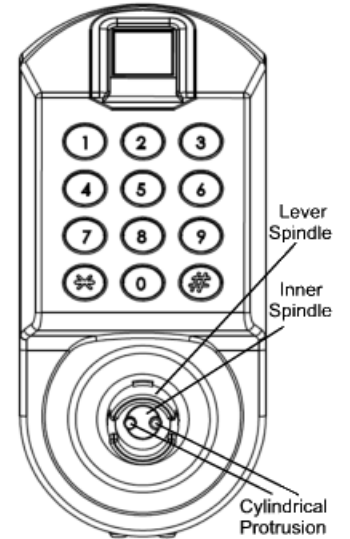

fig. 6
- 3.2 Rotate inner Spindle by Flathead Screwdriver let Cylindrical Protrusions horizontally aligned (see fig. 6).